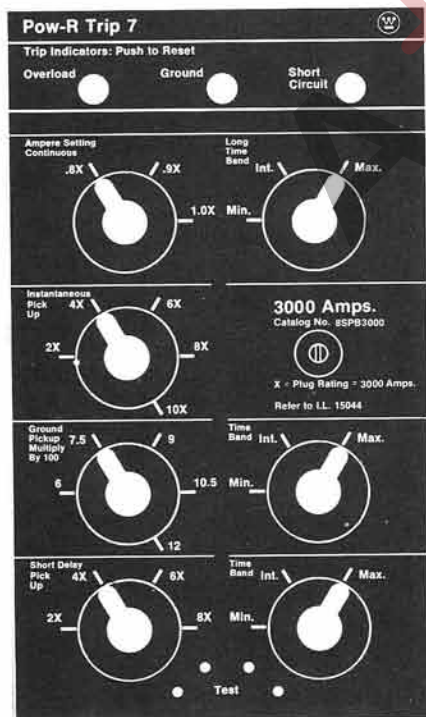
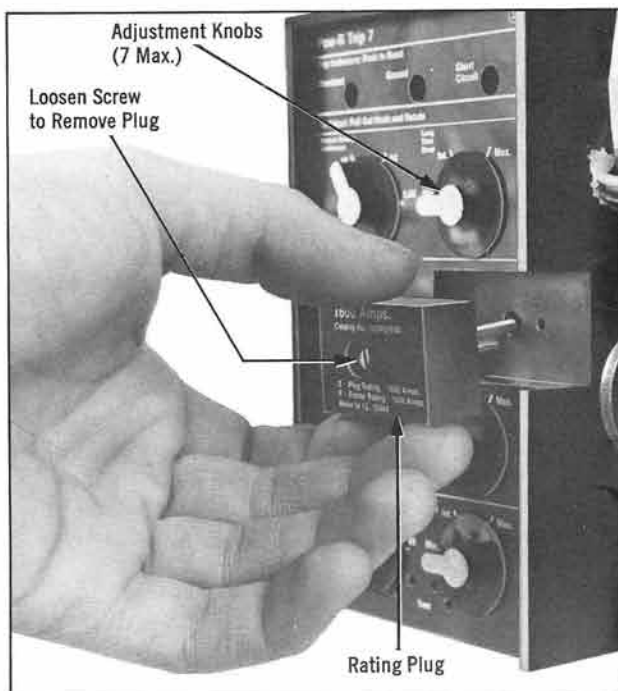
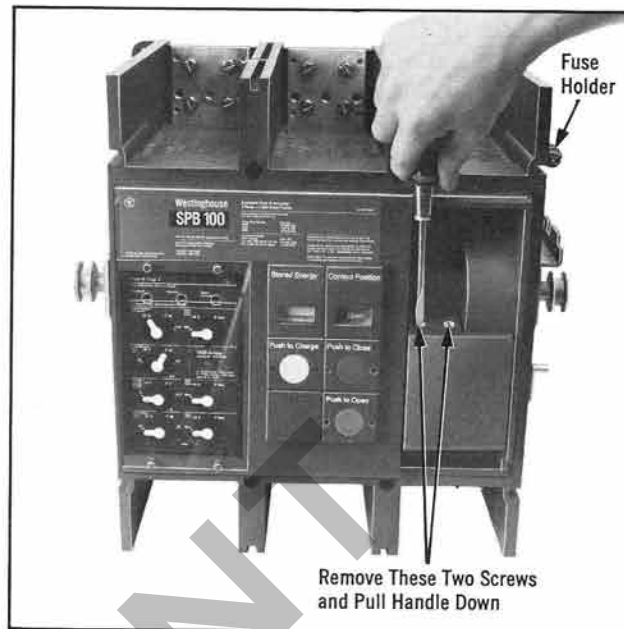
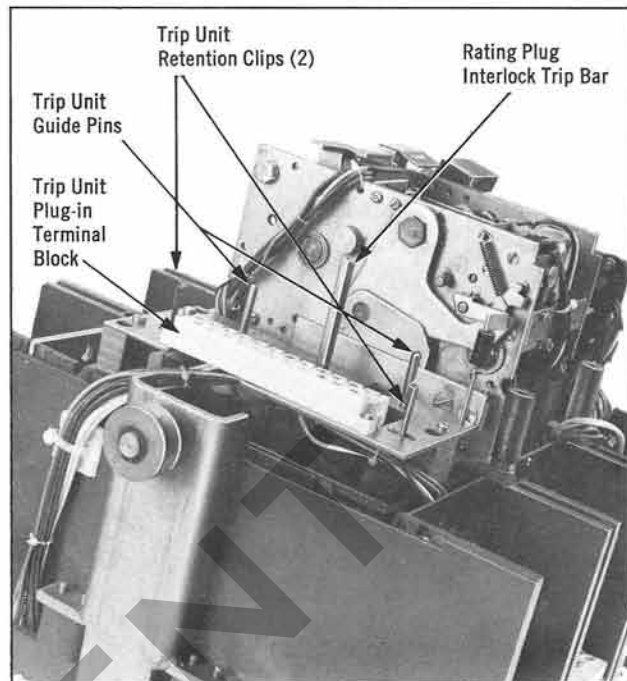

Fig. 34 Pow-R Trip 7 Trip Unit with All Available Adjustments and Optional Trip Mode Indicators (Maximum Number of Adjustments Shown).
Fig. 35 Interchangeable Rating Plug Being Removed. (Breaker Covered Removed for Clarity)
Fig. 37 Removing the Charging Handle.
Fig. 40 Trip Unit Removed from Breaker.
Refer to Figures 37 and 38.
Refer to Figures 34, 41, 42, 43, and 44.
Refer to Figure 34 and Figure 35.
Refer to Figure 35.
Refer to Figures 34 and 35.
Refer to Figure 34, and 41, 42 or 43.
Refer to Figure 34, and 41, 42, or 43.
Refer to Figures 34 and 44.
To remove the trip unit, the breaker charging handle and front cover must first be removed. Refer to 3.2.4 and see Figures 37 and 38. It is not necessary to remove the transparent trip unit cover separately since it moves with the breaker front cover. After removing the front cover, the rating plug should be removed. See 4.1.1 above and Figure 35. After the rating plug has been removed, lift the spring retention clips on the *top* and *bottom* of the trip unit as shown in Fig-
ure 39. After the top clip has been freed, pull out on the trip unit slightly and pry down on the bottom clip. The trip unit will not fall off the mounting plate since it is now held in place by the plug-in control terminal block. The trip unit must be pulled from the frame. See Figure 40.
3. Insert the trip unit - held in upright position - into opening and push into position. The guide pins pre-align the unit so that the plug-in control terminals and retention clips are properly engaged (see Figure 40).
4. Install the rating plug (refer to Section 4.1.1 and Figure 35 for guidance). Note: The plug screw engages the interlock trip bar shown in Figure 40.